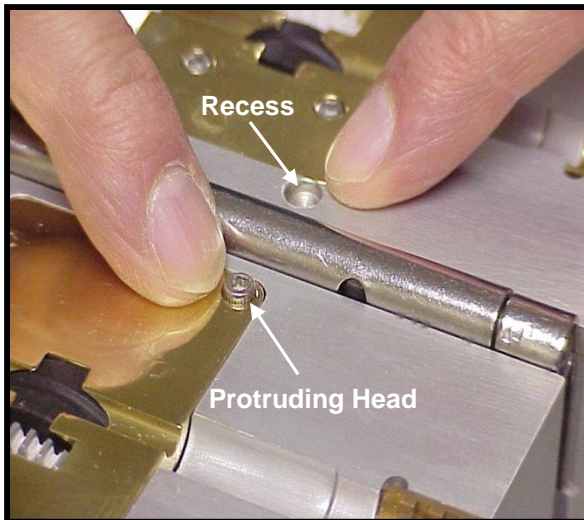

Figure 38
13.5.1.8 Important Note: When properly assembled, the heads of the two (2) long machine screws that secure the Lower Brass Plate to the lower Blowing Head section will protrude above the brass plate by about 1/16" (i.e. Not Flush with brass plate). This is correct. Do Not attempt to tighten the machine screws any further. Protruding screw heads fit into the recesses located in the upper Blowing Head section and act as aligning pins when the Blowing Head is closed. See Fig. 38.